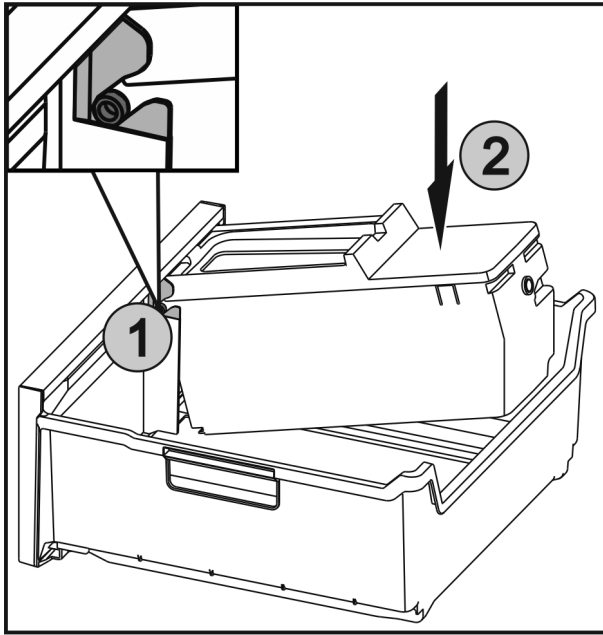

Fig. 59
- ▶ Insert the axles Fig. 59 (1) on the EasyTwist-Ice in the guides and push the rear side Fig. 59 (2) until the lug engages.